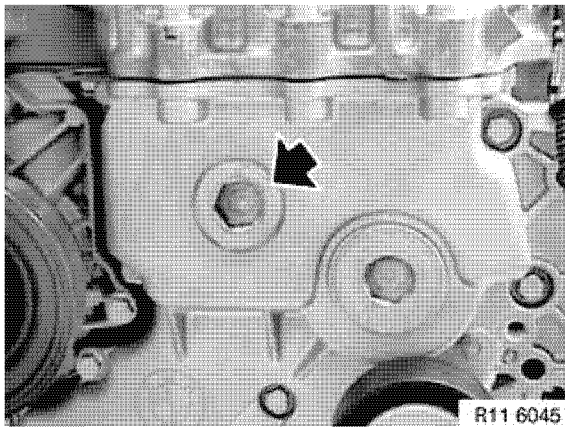

Figure 5-92
7. Remove plug (Figure 5-92) from timing case cover.